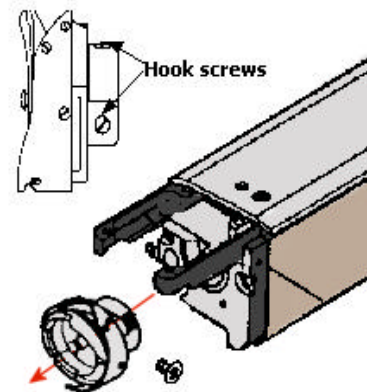

Fig.5
8. Loosen the three flat-head screws securing the hook. See **fig. 5**. *Note: You will have to rotate the main shaft degree wheel to reach all three screws. (Always rotate in the direction that increases the numbers. This is the direction of sewing. When rotating the main shaft always rotate in the direction of sew. )*